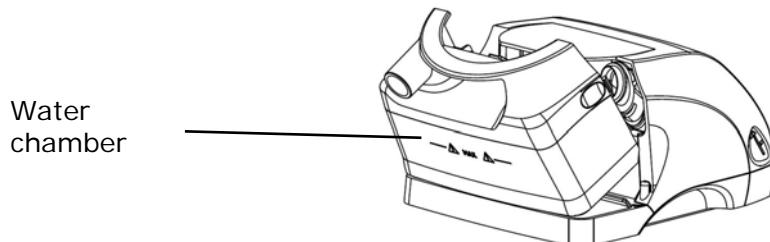

Figure 9 – Tipping the water chamber
2. Tip the water chamber back as shown in Figure 9. Remove the water chamber from the machine.